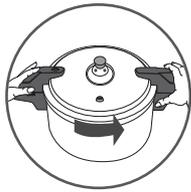

Fig 1
Hold the lid handles (E) and turn counter-clockwise until the device opens - Fig. 1. Then remove the lid.